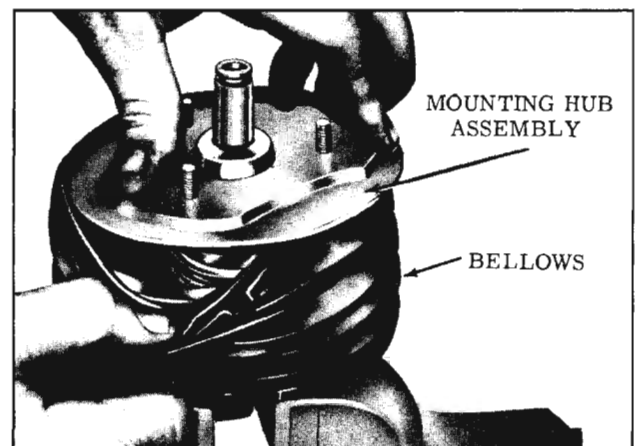

Fig. 7-124 Mounting Hub Removal
7. Still holding mounting hub down, remove lip of bellows from hub (Fig. 7-124), then lift mounting hub assembly and return spring from power unit.